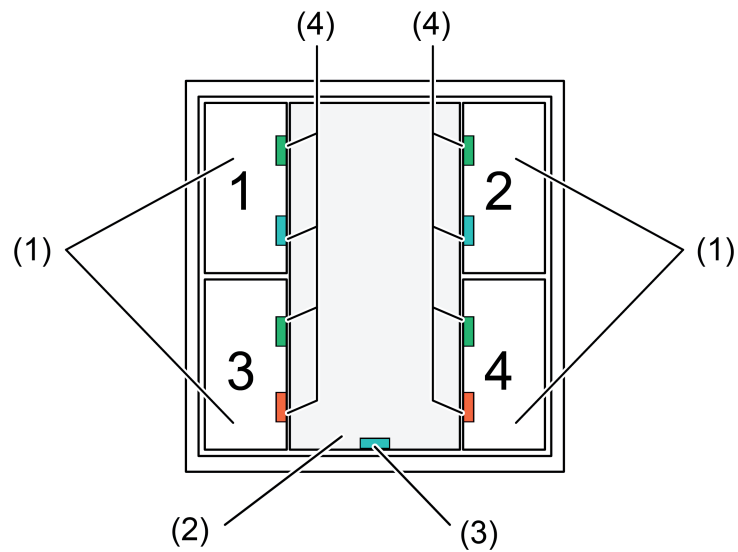

Figure 1: Front view of continuous controller module 2-gang
- Place the Design control surfaces individually on the device. For the arrangement of the Design control surfaces, see "Device components" (figure 1)